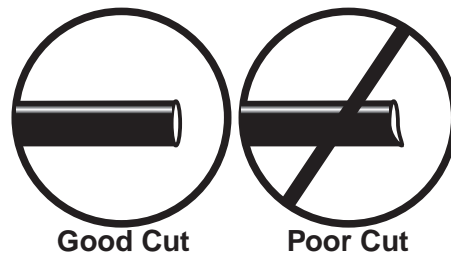

fig. 32
WHEN CUTTING OR TRIMMING THE AIR LINE, USE A HOSE CUTTER, A RAZOR BLADE, OR A SHARP KNIFE. A CLEAN, SQUARE CUT WILL ENSURE AGAINST LEAKS. DO NOT USE WIRE CUTTERS OR SCISSORS TO CUT THE AIR LINE. THESE TOOLS MAY FLATTEN OR CRIMP THE AIR LINE CAUSING IT TO LEAK AROUND THE O-RING SEAL INSIDE THE ELBOW FITTING (FIG. 32).
- a. Check the air line connection by deflating the spring and removing the line by pulling the collar against the fitting and pulling firmly on the air line. Trim 1" off the end of the air line. Be sure the cut is clean and square (see Fig. 32). Reinsert the air line into the push-to-connect fitting.